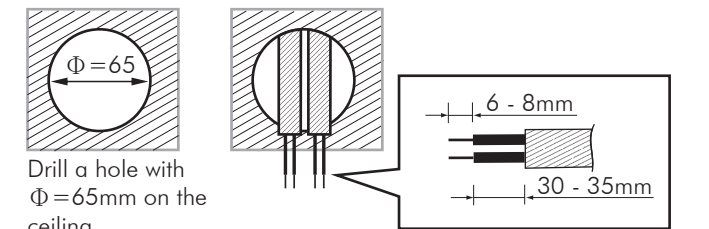

FIG.11
- 3.4.2.1 To install detector, please drill a hole with diameter of 65mm on ceiling board and keep the power cable out-side. Please strip off 6 - 8mm of cable sheathing for wiring (See FIG.11).